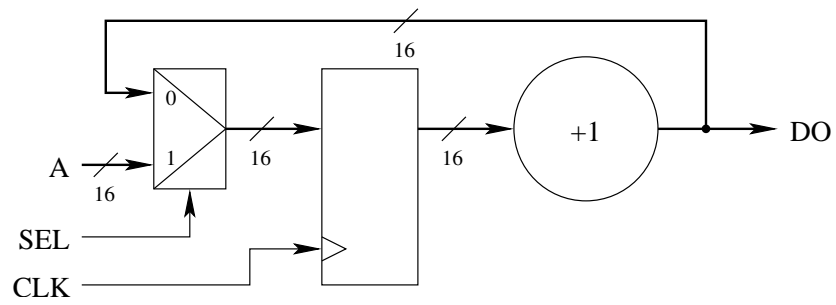

Figure 2: The *INC* digital circuit
- 1.2. We consider *INC*, a small digital circuit, represented on figure 2. *A* is a 16 bits primary input vector. *SEL* is a single bit primary input. *DO* is a 16 bits primary output vector. The circuit contains a 16 bits multiplexer, a 16 bits register (that samples its input on the rising edge of clock *CLK*) and a 16 bits incrementer (a simple combinatorial element that adds 1 to its 16 bits input and outputs the 16 least significant bits of the result). What is the minimum number of processes required to model this circuit in synthesizable VHDL? Explain your answer.